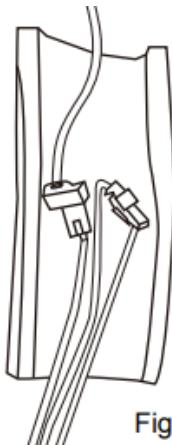

Figure 8
3. Connect the docking terminals of indoor unit and outdoor unit, see Figure 8.